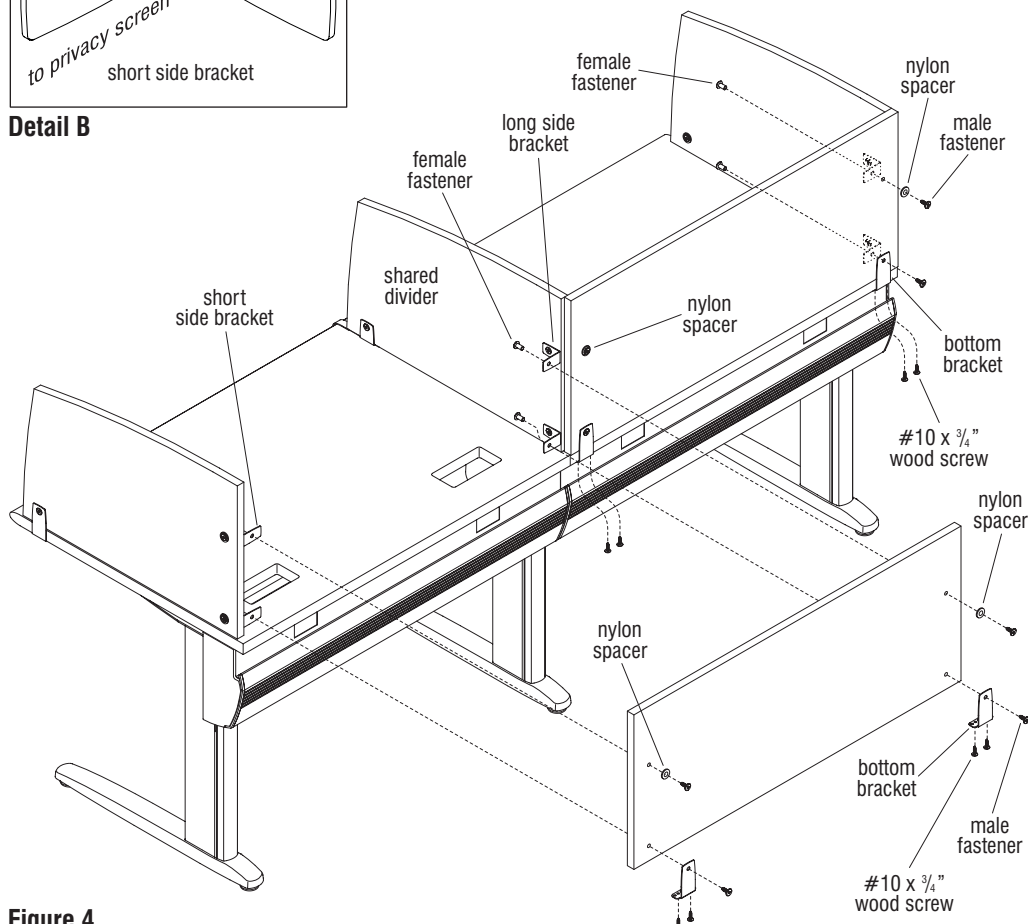
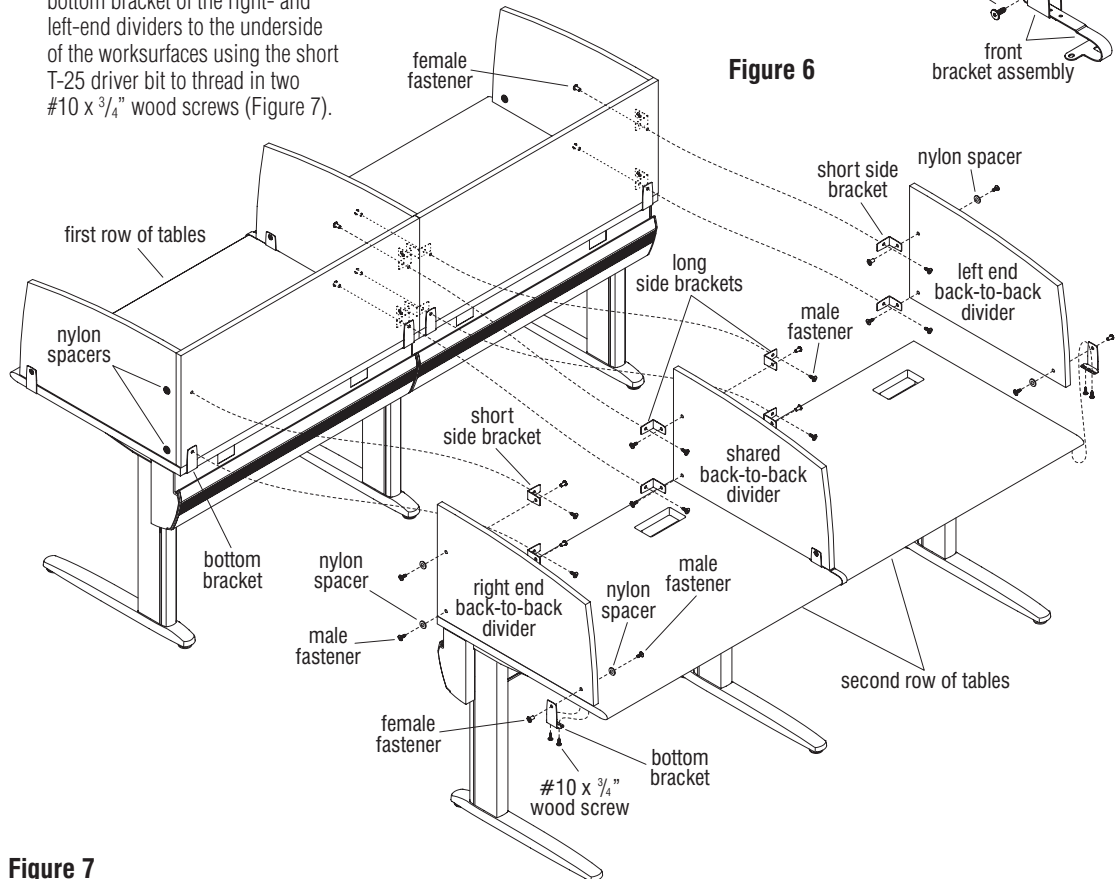

Figure 4
Figure 7
Note: For better alignment when securing dividers and privacy screens with the male/female fasteners, it is recommended that the larger diameter female fastener be used at locations where any type of bracket is being installed. And, a nylon spacer is required at any non-bracket attachment side of a divider or privacy screen where a short side bracket is secured using male/female fasteners (page 16, Figure 3, Figure 4, & page 18, Figure 7).
8. To install privacy screens, first insert two male fasteners through two bottom brackets and press the fasteners into the mounting holes at the lower, outside mounting holes of the privacy screen. Position the privacy screen into place, aligning the screen's bottom mounting holes with the short side bracket mounting holes. From the inside, thread a female fastener through the short side brackets and into the male fastener to hold the divider in place at the bottom brackets (Figure 4).
9. Secure the top of the privacy screen to the short side brackets of the dividers using male/female fasteners and nylon spacers where required. As described above, when securing the privacy screen to the divider, use the larger diameter female part of the male/female fasteners on the inside of the table. Use a male fastener with a nylon spacer at the back, top of the privacy screen. This will aid to properly align the divider screen (Figure 4).
10. Secure each bottom bracket to the underside of the worksurface using two #10 x 3/4" wood screws into pre-drilled holes (Figure 4).
tables until the second row meets the bottom brackets of the first set (Figure 7).
5. On the second row of tables, attach the shared back-to-back divider(s) to the table tops at the front, underside using two $\frac{1}{4}$ "-20 x $\frac{5}{8}$ " machine screws into the threaded inserts under the tables (Figure 7).
6. Next, determine the location of left- and right-end dividers. Both divider types are assembled from the same parts. Attach a bottom bracket to the appropriate side at the front, outside of each divider using male/female fasteners and nylon spacers as illustrated (Figure 7).
7. Position the end dividers onto the tops so that the rear edge of the divider meets the back-to-back privacy screen. At the appropriate mounting location, secure the bottom bracket of the right- and left-end dividers to the underside of the worksurfaces using the short T-25 driver bit to thread in two $\frac{1}{4}$ " x $\frac{3}{4}$ " wood screws (Figure 7).
8. On the second row of tables, attach all required short and long side brackets to the rear of the shared and end back-to-back dividers using male/female fasteners and nylon spacers to the outside as required (Figure 7).
9. Secure the dividers of the second table row to the back-to-back privacy screens of the first set of tables with male/female fasteners as illustrated. When securing the privacy screen to the divider, use the larger diameter female part of the male/female fasteners on the inside of the table. This will aid to properly align the divider screen (Figure 7).